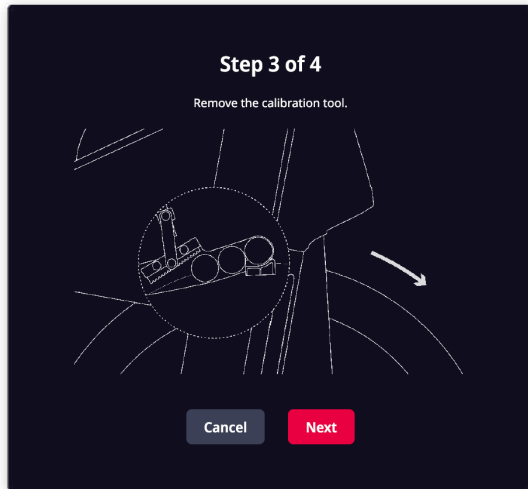

Fig. 81
- c. Remove the calibration tool. (Fig. 81)